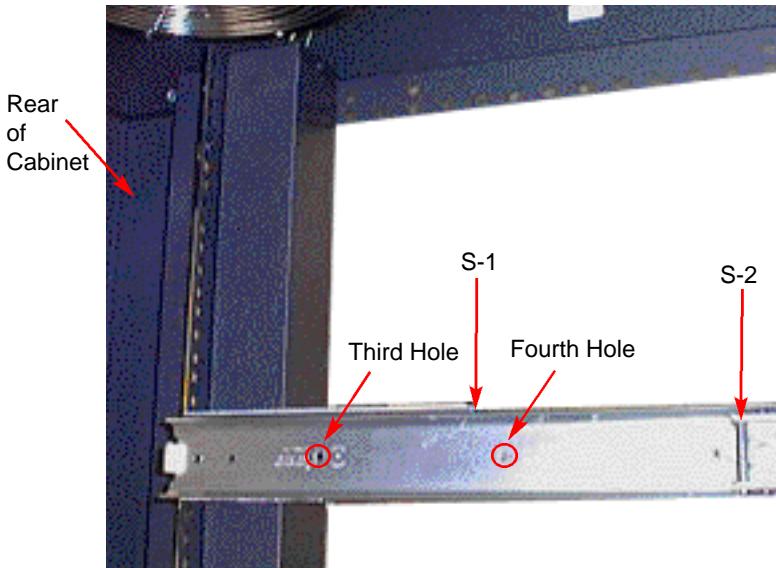
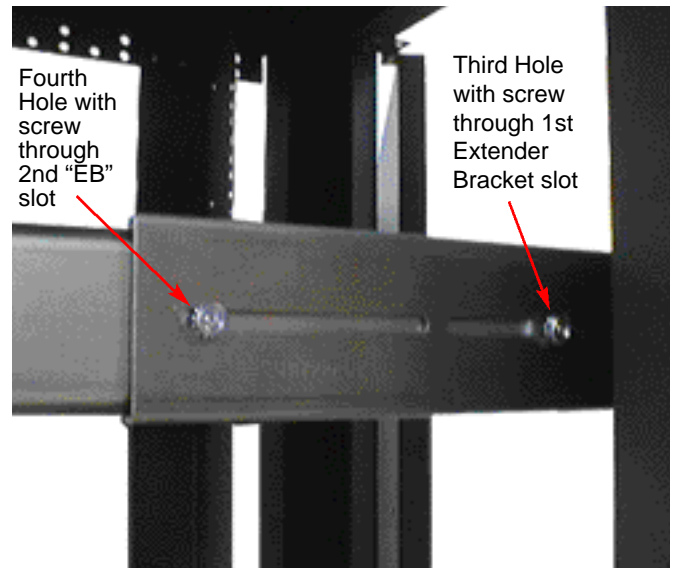

Figure 10 - Attaching Outer Slide Rail to Extender Bracket
Figure 11 - Screws Through Rear Extender Bracket Slots
- b. From the rear of the slide rail, push the middle slide forward until you can see the third hole of the slide rail (see Figure 10). Use an 8-32 screw. When the screw comes through the first slot in the extender bracket, put a kepnut on the end of it (with lock to the inside) and finger-tighten (see Figure 11). Put an 8-32 screw into the fourth hole. Make sure the screw comes through the second slot in the Extender Bracket (Figure 11). Place a kepnut on the end and finger-tighten.